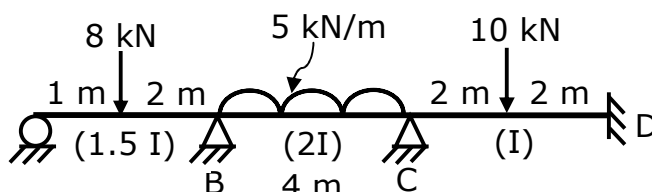

Fig. 6
- (b) Calculate the support moments and draw B.M. diagram of beam as shown in fig. 6 using Kani's method. **10**